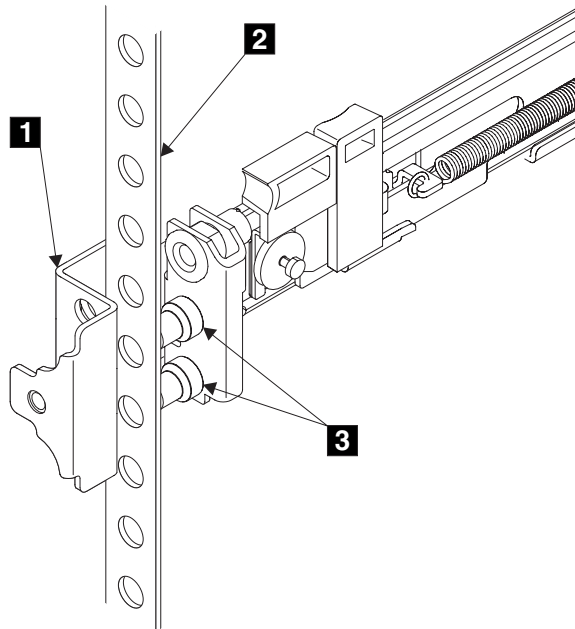

Figure 39. Installing the front end of the rail
6. Place the front end of the left rail in the rack cabinet. Align the top of the front bracket **1** (Figure 39) with the required EIA marking that is on the rack.